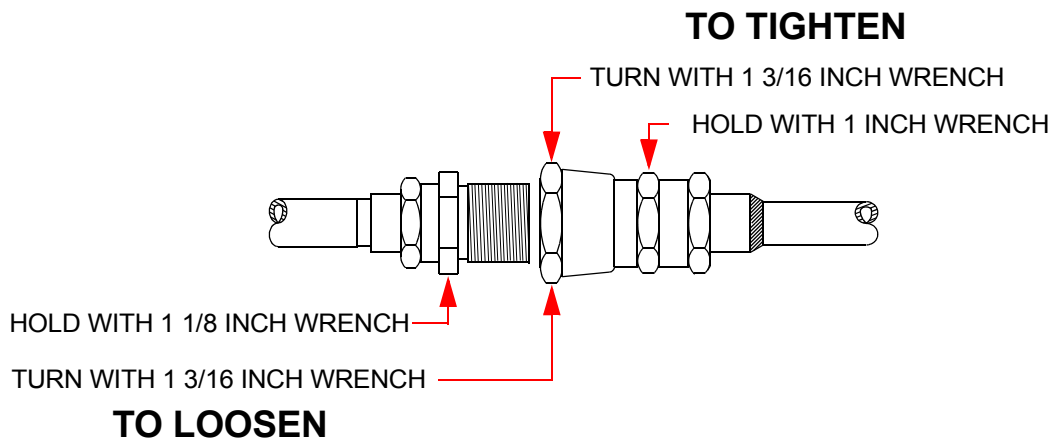

Figure 4-2: Connecting/Disconnecting Helium Flex Line Self Sealing Couplings
CAUTION Equipment Damage To avoid damaging the connector, O-ring seals, or causing a helium circuit leak, connect and disconnect the helium flex lines from the On-Board IS 1000 Compressor using the following procedure and as shown in Figure 4-2 on page 4-6.
2. Connect the Gas Return line to the GAS RETURN connector on the rear of the Compressor and then to the GAS RETURN connector on the On-Board IS Cryopump or helium manifold. Using two wrenches as shown in Figure 4-2 on page 4-6, tighten the connector.
3. Connect the Gas Supply line to the GAS SUPPLY connector on the rear of the Compressor and then to the GAS SUPPLY connector on the On-Board IS Cryopump or helium manifold. Using two wrenches as shown in Figure 4-2, tighten the connector.
- Using two wrenches as shown in Figure 4-2, disconnect the two self sealing coupling connectors quickly to minimize helium leakage.